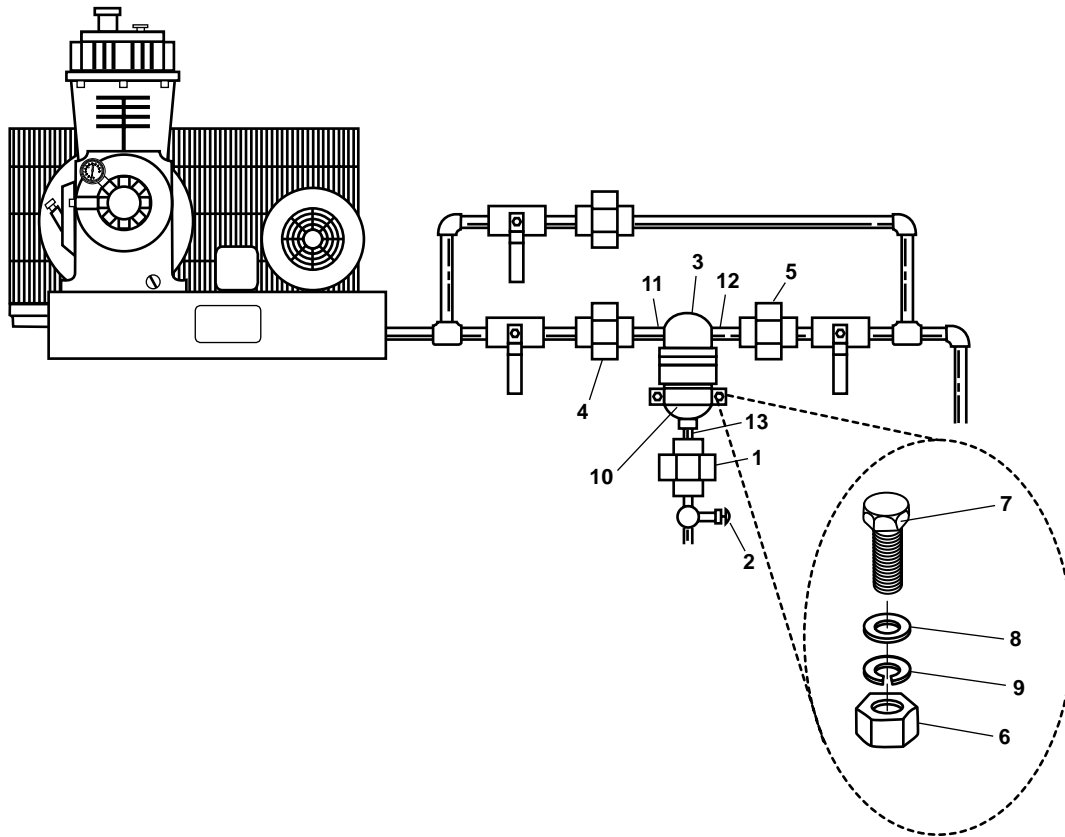

Figure 1. Air Dryer and Piping
4. Loosen the dryer's drain piping union (figure 1, item 1) and remove the drain piping (figure 1, item 2) from the bottom of the dryer (figure 1, item 3).
5. Loosen the dryer's inlet piping union (figure 1, item 4) and the discharge piping union (figure 1, item 5) from the dryer (figure 1, item 3).
6. Remove the two nuts (figure 1, item 6), two bolts (figure 1, item 7), two flat washers (figure 1, item 8), and two lockwashers (figure 1, item 9) securing the mounting strap (figure 1, item 10). Remove the dryer (figure 1, item 3). Discard the lockwashers.
7. Remove and set aside the pipe fittings (figure 1, items 11, 12, and 13) from the dryer (figure 1, item 3).
1. Wrap the male pipe threads of the pipe fittings (figure 1, items 11, 12, and 13) with antiseizing tape.
2. Install the pipe fittings (figure 1, items 11, 12, and 13) into the dryer (figure 1, item 3).
3. Position the dryer in its mounting strap (figure 1, item 10) and loosely attach the inlet and discharge pipe unions (figure 1, items 4 and 5). Do not tighten the unions at this time.
4. Loosely attach the drain piping union (figure 1, item 1) to the drain piping (figure 1, item 2). Do not tighten the union at this time.
5. Secure the mounting strap (figure 1, item 10) loosely with the two nuts (figure 1, item 6), two bolts (figure 1, item 7), two flat washers (figure 1, item 8), and two new lockwashers (figure 1, item 9). Do not tighten the fasteners at this time.
6. Tighten the inlet and discharge pipe unions (figure 1, items 4 and 5).
7. Tighten the drain piping union (figure 1, item 1).
8. Tighten the two nuts (figure 1, item 6) and two bolts (figure 1, item 7) that secure the mounting strap (figure 1, item 10).